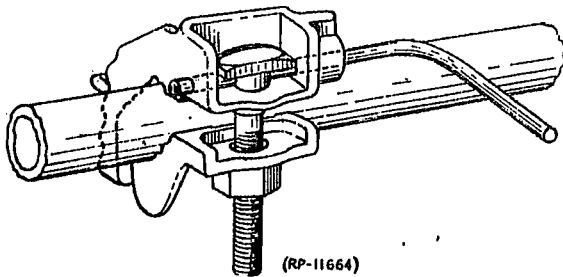
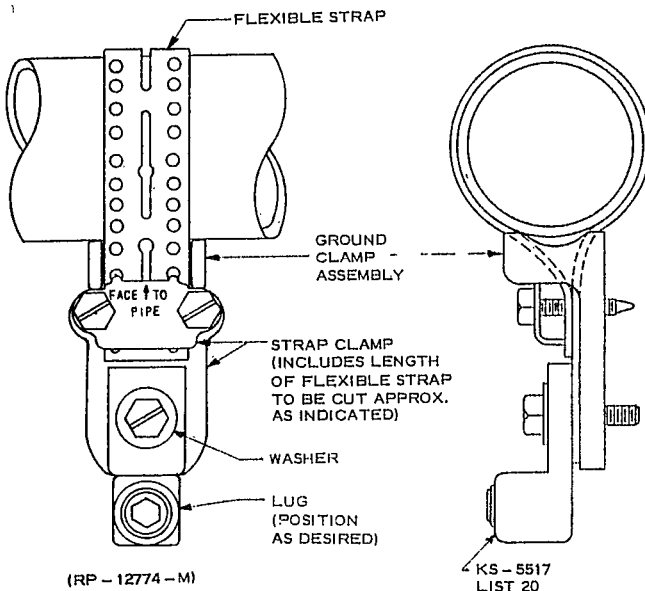

FIG. 7 CAST BRONZE GROUND CLAMP (CROUSE-HINDS CAT. GCH91E) FOR 1/2" TO 1" PIPE. GROUND WIRE AWG 8 TO 4 (PAR. 5.52)
FIG. 9 FLEXIBLE STRAP GROUND CLAMP CROUSE-HINDS NO. (GCE014) FOR USE WITH GROUNDING LEAD SIZES 1/0 TO 4/0 (PAR. 5.52)
5.52 Lugs for the "A" lead at the water pipe or driven pipe and rods are listed in Table B and shown in Figures 7 and 8, also Figure 9 when made of "Everdur." At the equipment end of the "A" Lead conventional lugs per KS-5517 are used.